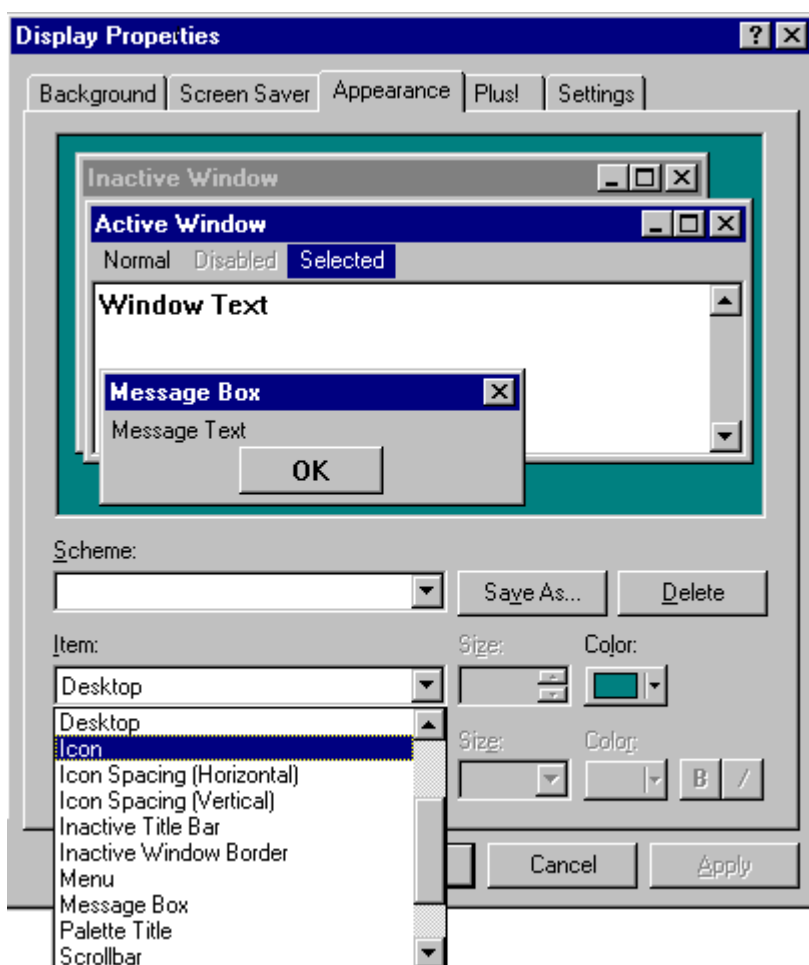

FIGURE 21. Display Properties Dialog, Item Settings
- 8.15 Select the 'Item' drop down box, and select 'Icon'. See Figure 21.